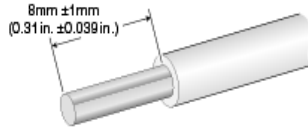

Figure 11 Stripped Wire
- With a 22-gauge wire-stripping tool, strip the three wires in the tray cable coming from the DC input power source to $8\text{mm} \pm 1\text{mm}$ ($0.31\text{in.} \pm 0.039\text{in.}$), as shown in Figure 11 on page 21.